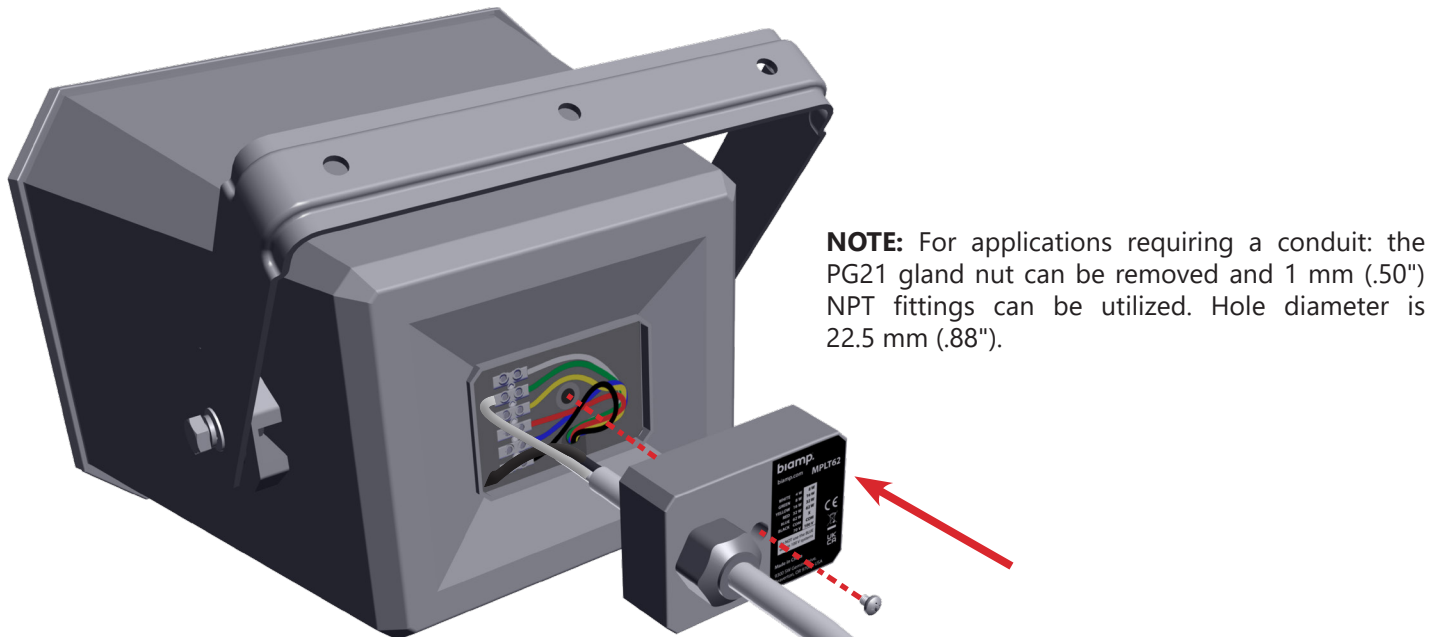

Figure 7. Reattach cover
6. Replace the input cover and fully tighten the retaining screw as shown in Figure 7.